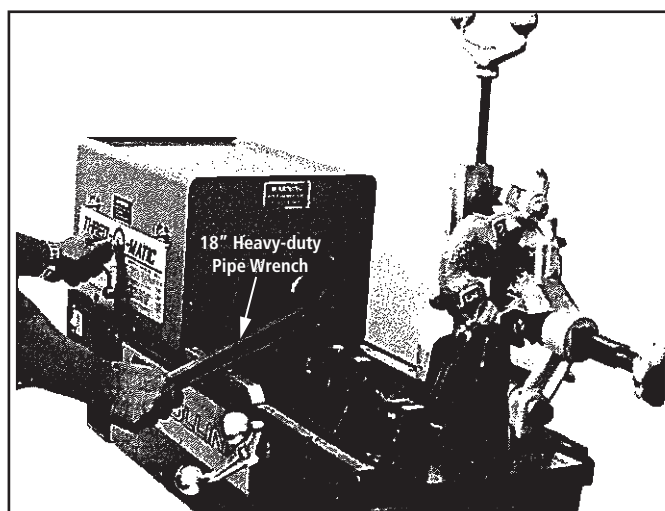

Figure 17
7. Rest handle portion of pipe wrench on the make-on bar (see Fig. 17).